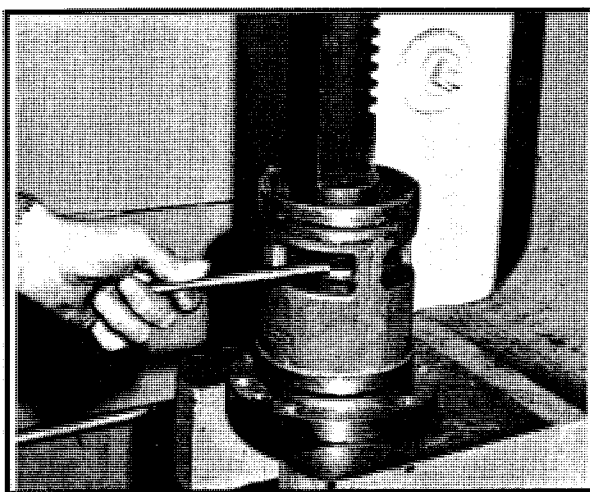

Figure 3-7 Remove Piston Blocks
9. With piston blocks removed, piston (Item 7) and spring (Item 14) can be removed from cylinder (Item 16). Reference Figures 3-7, 3-8 and 3-9.